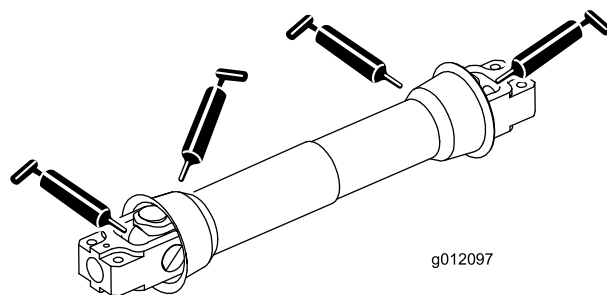

Figure 11
Under normal conditions, grease the (2) drive shaft fittings after every 100 hours of use and the guards after every 8 hours of operation (Figure 11). Use a No. 2 Lithium-based grease.